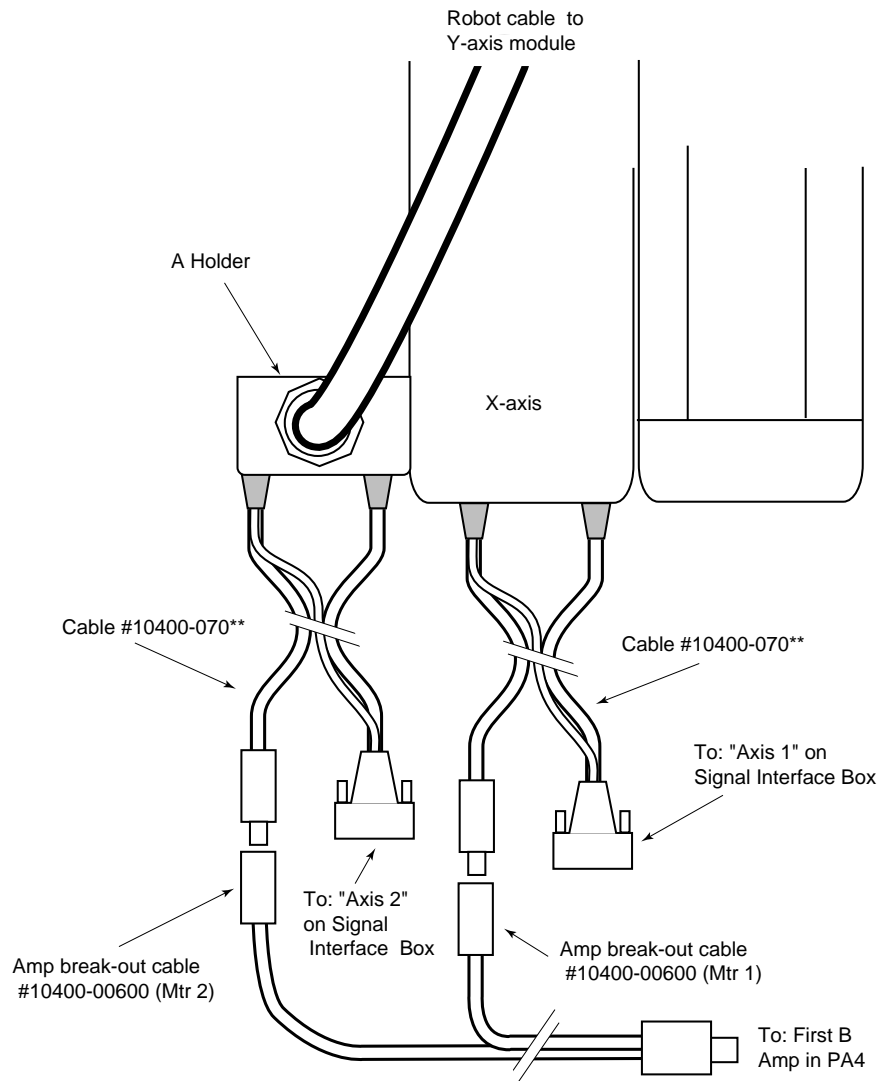

Figure 4-12. Connecting to an Adept MV Controller
- a. Connect the two barrel ends of the cable to the X-axis module as shown in Figure 4-12. These connectors have different pin sizes and cannot be installed incorrectly.
- c. Attach the A holder end of the robot cable to the side of the X-axis module as shown in Figure 4-12 (refer to Section 4.3 for holder rotation and mounting).
- e. Connect the two barrel ends of the cable to the A holder as shown in Figure 4-12. These connectors have different pin sizes and cannot be installed incorrectly.